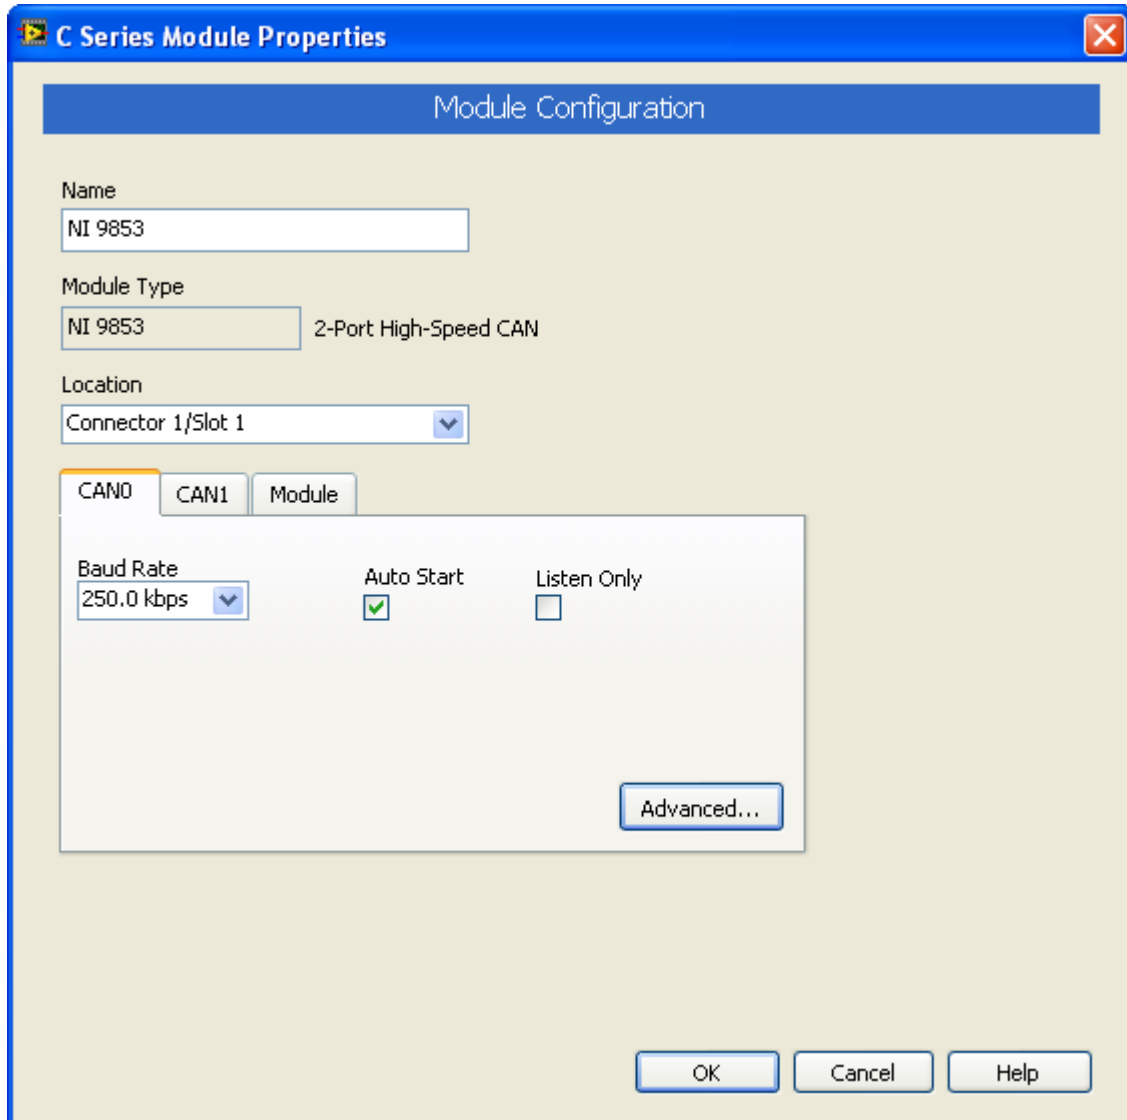

Figure 5a. Top level property dialog for NI 9853 module.
Right click on the NI 9853 module within your project explorer and select **Properties**. A dialog will open and allow you to make the CAN module settings listed in item 4 above. The property dialogs are shown below in figure 5a and 5b.